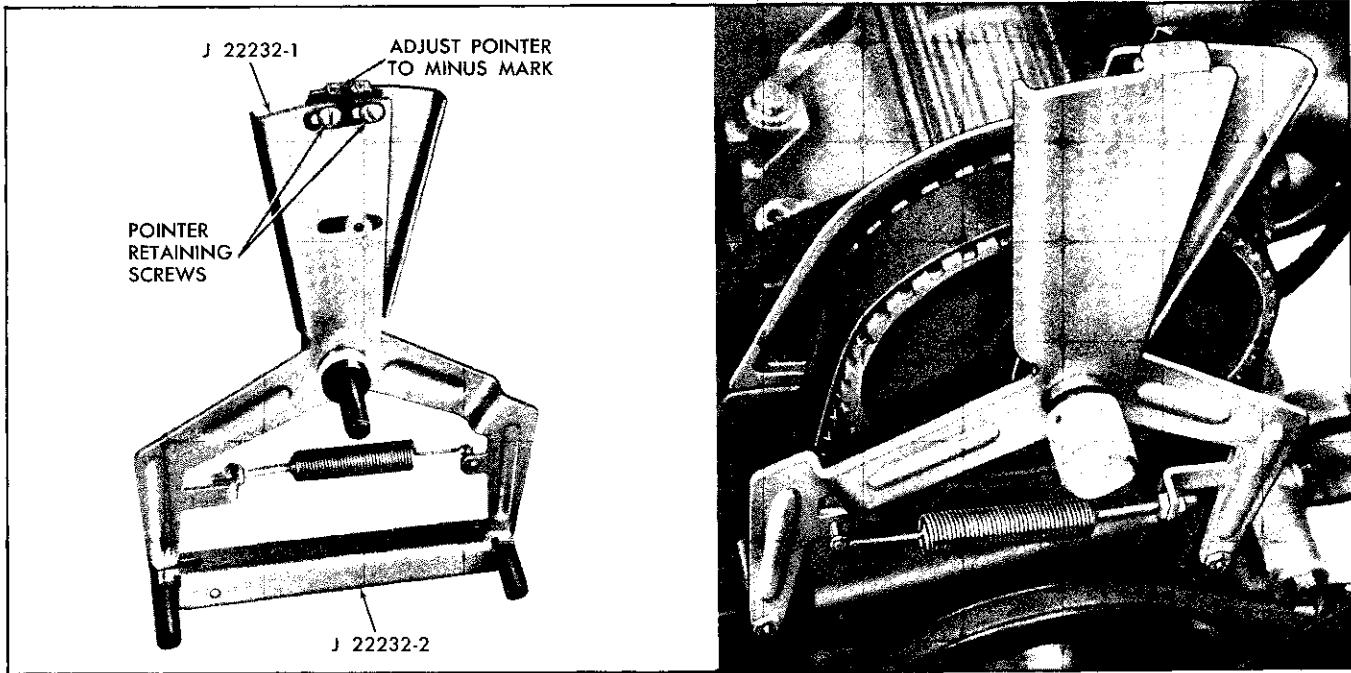

Fig. 6-12 Adjusting Timing Belt Tension
2. Using J 22232-2 calibration bar as shown in Fig. 6-12) set pointer of tension fixture J 22232-1 to line up with mark on minus side.